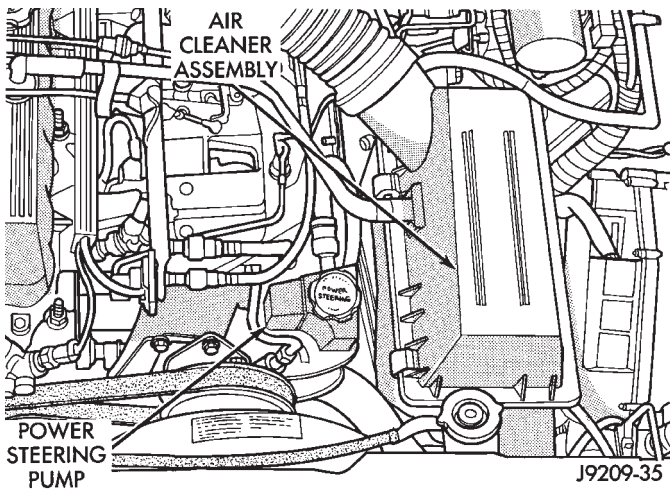

Fig. 16 Air Cleaner Assembly & Power Steering Pump
- (21) Remove the fuel line bracket from the intake manifold.
- (22) Remove the air cleaner assembly (Fig. 16).
- (23) Remove the power brake vacuum check valve from the booster, if equipped.
- (24) If equipped with power steering (Fig. 16):
- (25) Identify, tag and disconnect all necessary wire connectors and vacuum hoses.
- (26) Raise and support the vehicle.
- (27) Disconnect the wires from the starter motor solenoid.
- (28) Remove the starter motor.